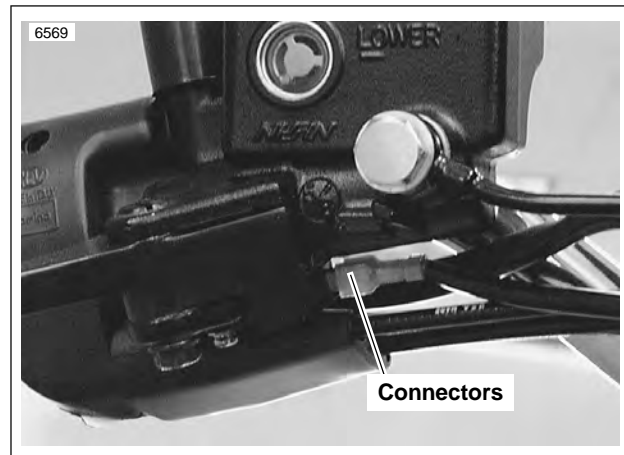

Figure 2-32. Brake Lamp Switch Connectors
2. Connect brake line (5) to master cylinder using two **new** banjo washers (4) and banjo bolt (6) (metric). Tighten to 16-20 ft-lbs (21.7-27.1 Nm).
3. See Figure 2-32. Verify brake lamp switches are secure. Attach wires to switches.